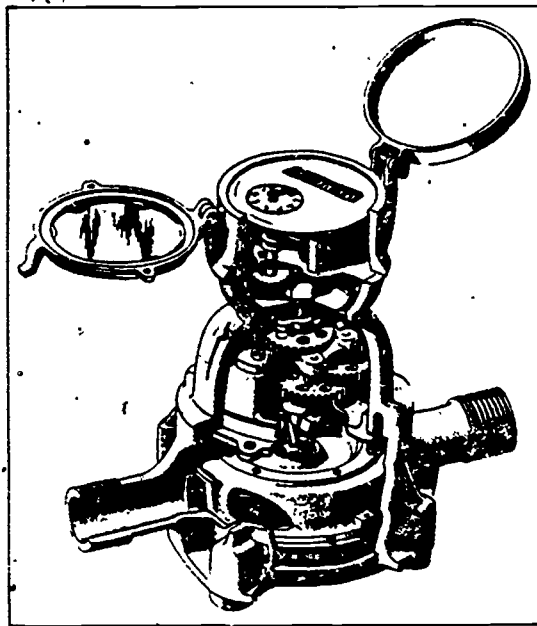

Figure 5-30. Cross section of a water meter.
**Watermeters.** Watermeters are devices that measure and record the amount of water that flows through a pipe. They are used to record the amount of water that is used by a consumer. The construction of a watermeter is shown in figure 5-30.